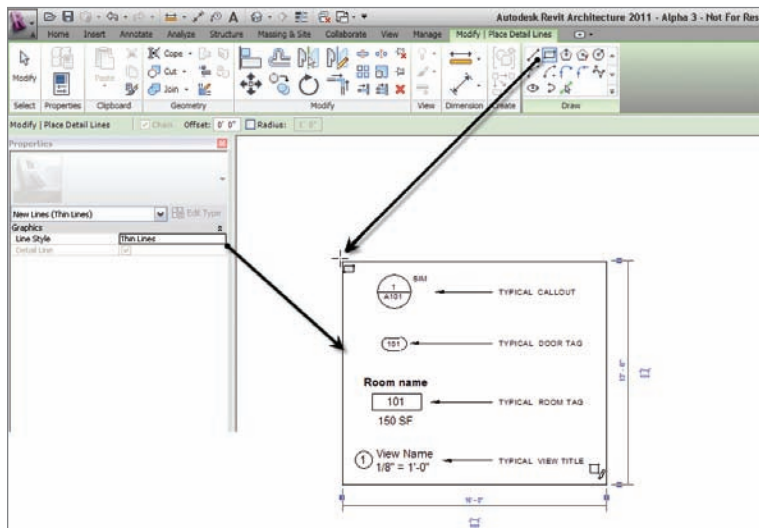

FIGURE 11.52 Adding the linework around the symbols and text
2. In the Properties dialog, be sure Thin Lines is selected, as shown in Figure 11.52.
3. On the Draw panel, click Rectangle, as shown in Figure 11.52.
4. Draw a rectangle around the symbols and the text (see Figure 11.52).